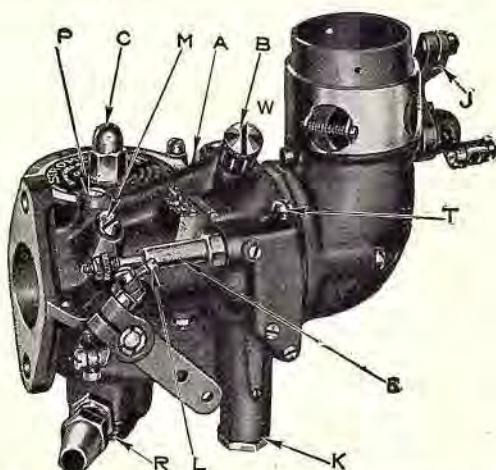

Fig. 31. Stromberg type OS plain tube carburetor. A horizontal, single control carburetor. Made 1" and 1 1/4" sizes.
Adjustment for idling mixture and closed throttle running up to about eight miles per hour is controlled by the idling adjusting screw (B) (Fig. 31). This operates on the air, so that screwing it in gives a richer mixture and out a leaner one.
If, after adjusting the low-speed needle as described above, the engine idles too fast, turn the small throttle stop screw (L) (Fig. 31) to the left, or counter-clockwise, until the proper idling speed is reached. If the engine idles too slow and stops, turn the screw to right, or clockwise, until the proper speed is reached. Before adjusting with throttle stop screw, it will be necessary to loosen the lock screw.
The economizer device (E) (Fig. 31) operates to lean out the mixture automatically at speeds of from 10 to 45 miles per hour. The economizer needle is properly set at the time the carburetor is installed on the engine and no adjustment is needed.